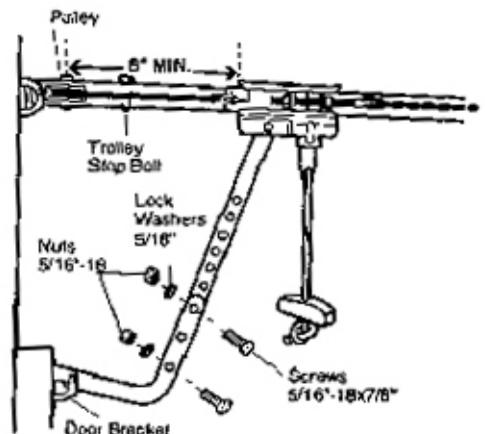

Figure 2
- Center the door bracket on the previously marked vertical centerline used for the header bracket installation. Note correct UP placement, ass stamped inside the bracket (Fig 2).
If your installation doesn't require vertical reinforcement but does need to and bottom fastening holes for the door bracket, fasten as shown in Fig. 2.
● Fig. 2